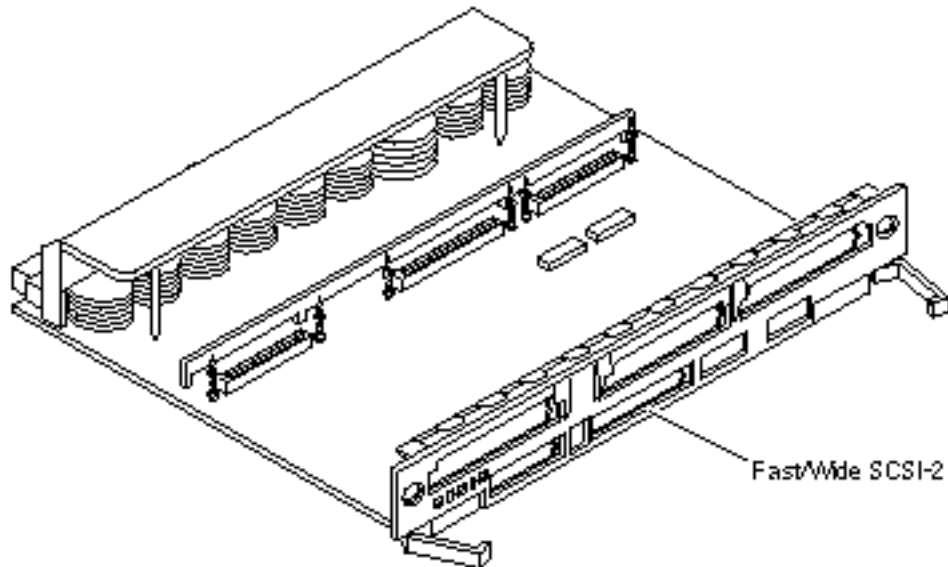

Figure 2-11 Onboard Single-ended SCSI Connector on the I/O+ Board
- For I/O+ boards in slots 2 through 15, use the onboard SCSI-2 port (Figure 2-11) or an SBus card.